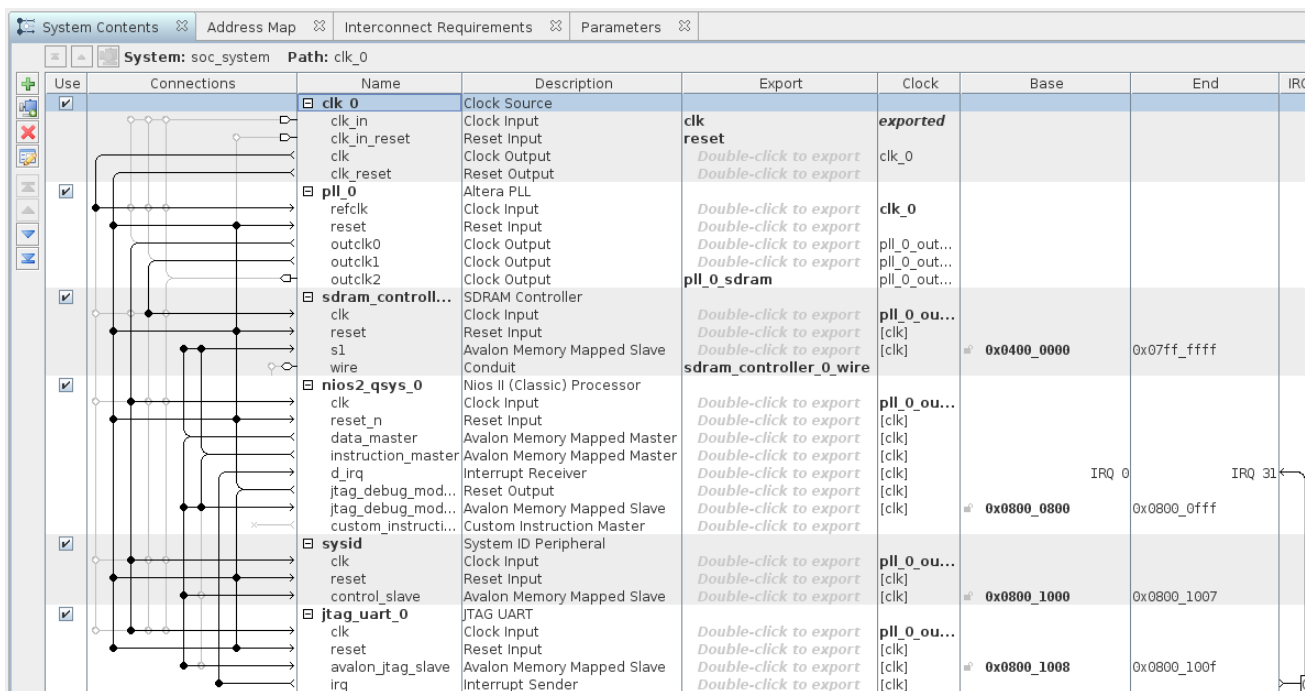

Figure 9-2. Basic Nios II System with SDRAM and JTAG UART
10. Connect the system as shown in Figure 9-2 below: